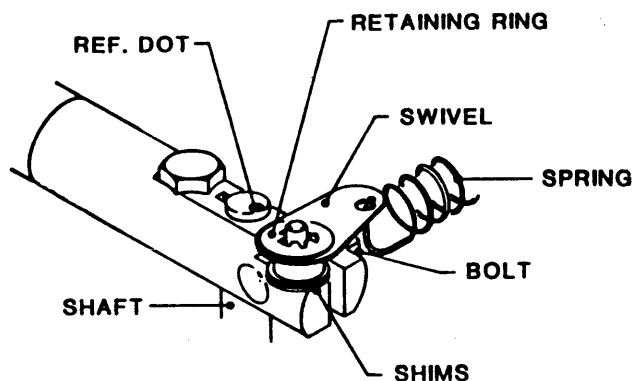

Figure 5-7. Take-up Arm and Supply Arm Assemblies
5.3.8 TAKE-UP ARM ASSEMBLY (Figure 5-7)
5.3.9 SUPPLY ARM ASSEMBLY (Figure 5-7)